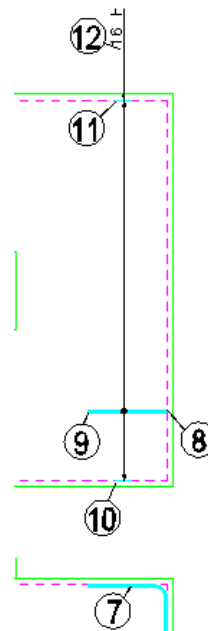

Figure 3.6.15:2 Second Single Indicator Range Placing Order
- Press ENTER to continue or (A)verage/(R)un Out/(N)umeric:* Press Enter to accept
- Repeat the RebarCAD → Draw Range → Add View or  command and add the range of the right-hand Shape Code 132 (shown by point 7) to the Plan View, as shown in figure 3.6.15:2 below